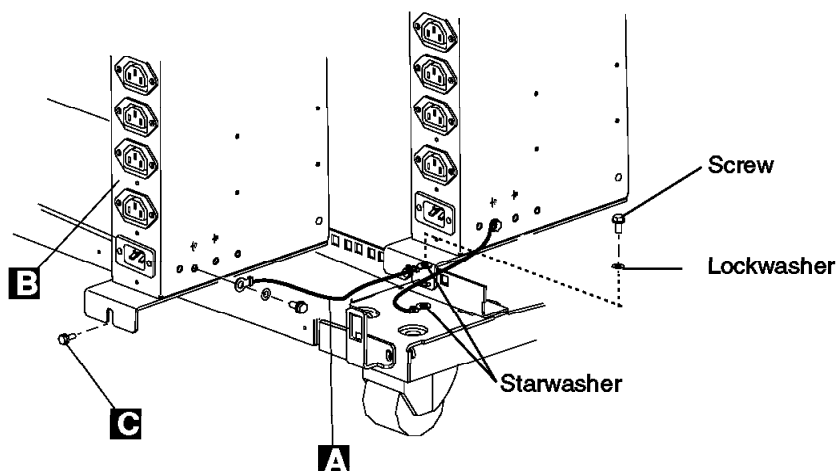

Figure 4. Installing the Second ac Outlet Distribution Box
- ___ 5. Refer to Figure 4 on page 7, using one lockwasher (PN 1622319), one starwasher (PN 1622347), and one screw (PN 1673983), **connect** the ground jumper **A** (PN 63F2459) to the new ac outlet distribution box. Then,